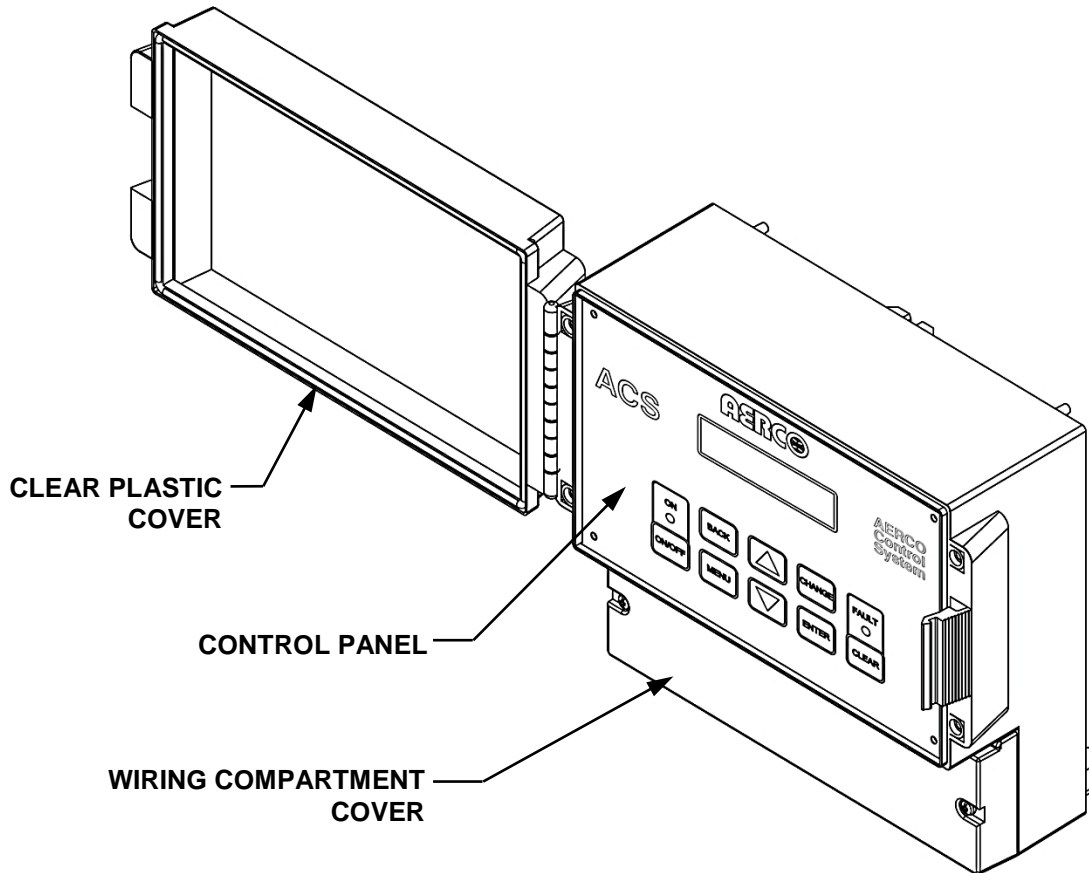

Figure 1-1: AERCO Control System (ACS)
The ACS (Figure 1-1) is a rugged and flexible controller, designed to stage and coordinate the operation of up to 32 AERCO Benchmark Series, Modulex Series or KC1000 Boilers while maximizing operational efficiency. Under normal load conditions, the ACS can precisely regulate the header temperature of the boiler plant within $\pm 2^{\circ}\text{F}$.
2. Remove the wiring compartment cover from the front of the ACS (see Figure 1-1) to provide access to the slots for the two lower mounting screw locations.